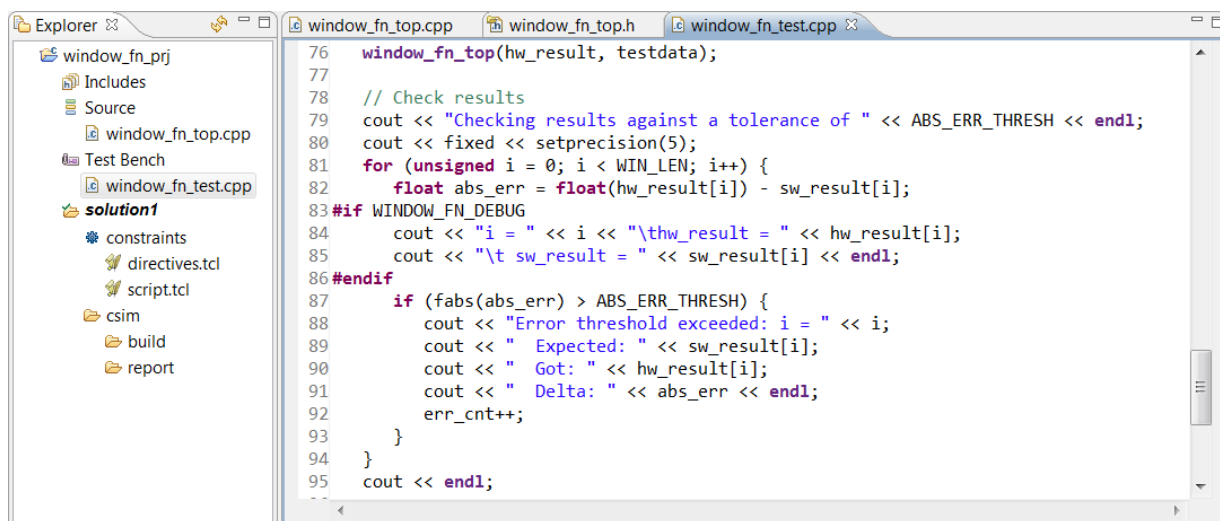

Figure 5-11: Test Bench for Arbitrary Precision Lab 2
8. Scroll down to see the view shown in Figure 5-11.